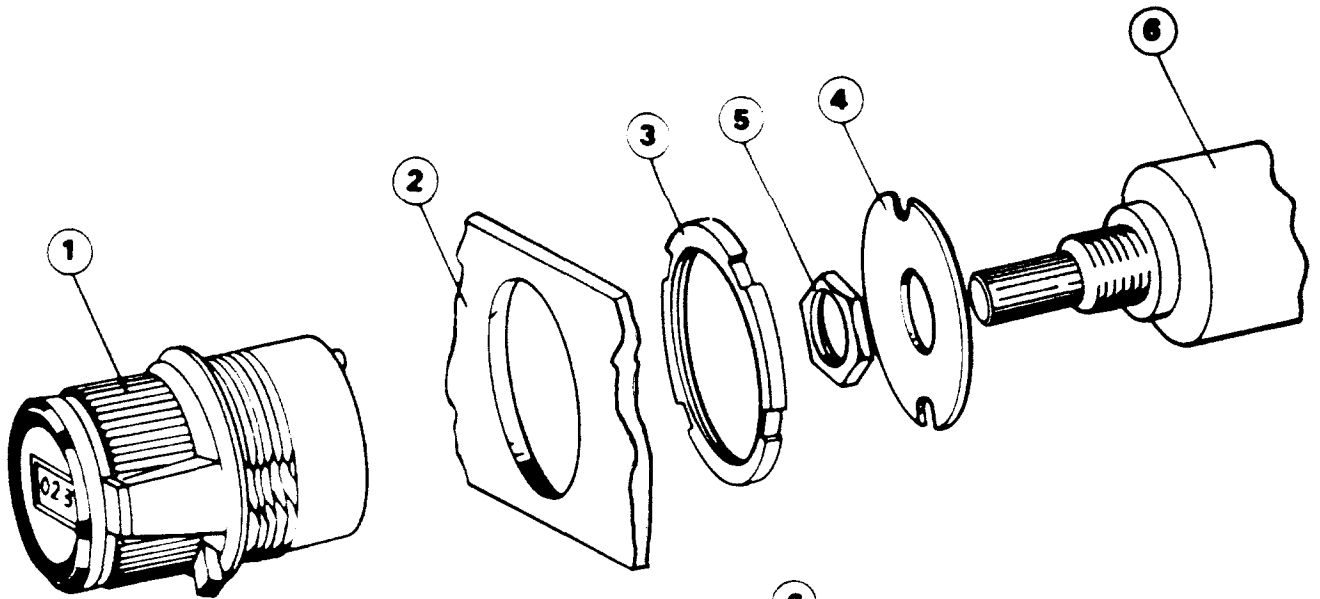
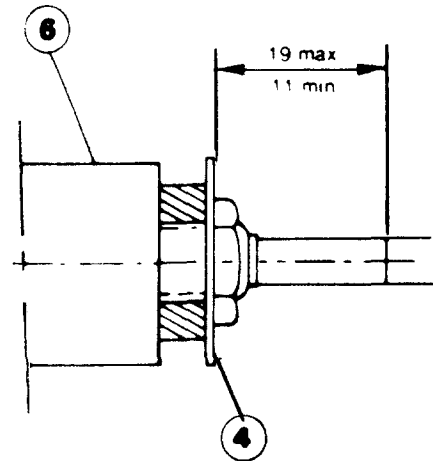

Fig. 2.
Fig. 1.
1. Cut 28.1mm dia hole in panel (2).
2. Fit anti-rotation washer (4) to potentiometer (6) using potentiometer nut (5) supplied, making sure that not more than 19mm of the shaft length is protruding from the anti-rotation washer (4) figure 1.
4. Place potentiometer through mounting nut (3) and panel (2).
5. Insert mechanism (1) through hole from the opposite side of panel and locate onto anti-rotation washer, lock in place with mounting nut (3) figure 2.